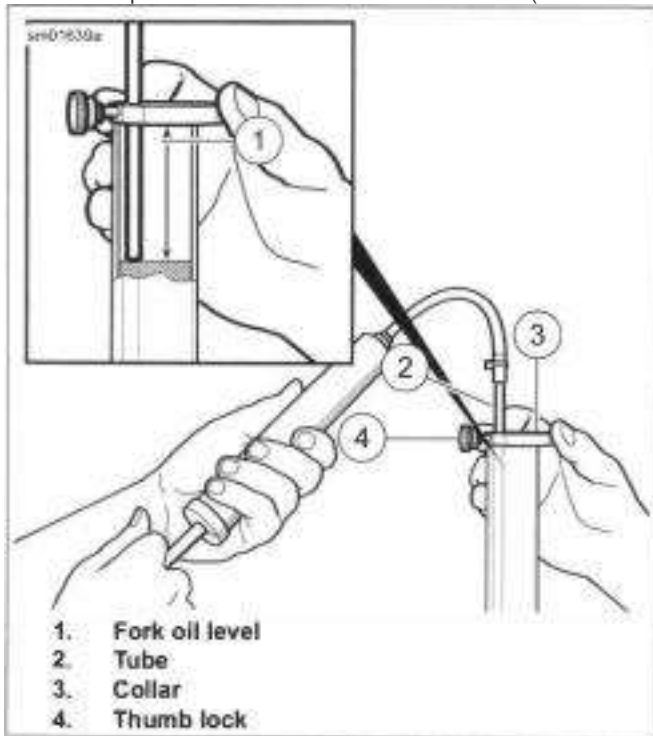

Figure 3-78. Oil Level Gauge
- b. See Figure 3-78. Fill with TYPE "E" HYDRAULIC FORK OIL until oil level matches specification from top of fork tube with spring removed. Adjust oil level to specification using fork oil level gauge. Refer to Table 3-12.